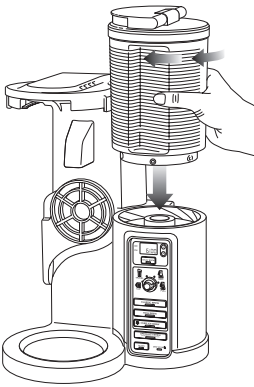

Fig. 4
- 2 Holding the water reservoir by the grip, twist counterclockwise to remove. Either flip the lid top over or remove lid by twisting counterclockwise to remove. Fill with water up to, but not exceeding the Clean Cycle Max Fill line (30 oz.). To replace the water reservoir, place on top of the base and twist clockwise until a click indicates it is locked in place. (Fig. 4)